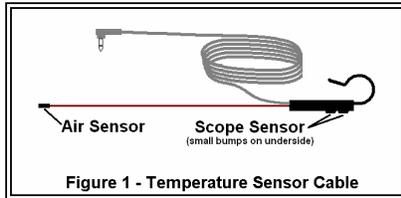
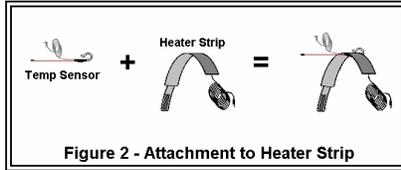
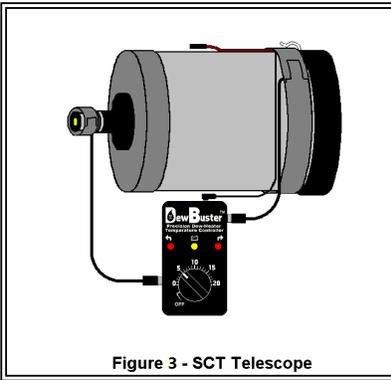
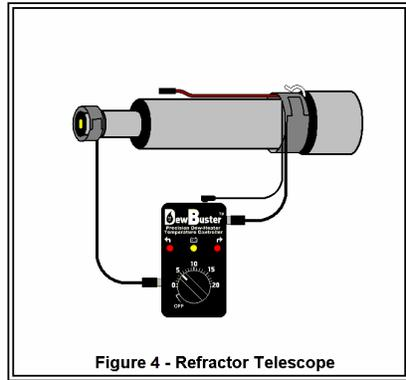

Figure 1 - Temperature Sensor Cable
Figure 2 - Attachment to Heater Strip
Figure 3 - SCT Telescope
Figure 4 - Refractor Telescope
- Attach Sensor Cable (Fig.1) to heater strip as shown in Fig.2.
- Attach heater strip to telescope (Fig. 3 or 4) making sure Scope Sensor (Fig.1) is against telescope tube and Air Sensor does not touch telescope. **NOTE: The best location for the heater strip is just behind the corrector plate casting (Fig.3) or refractor dew shield (Fig.4) so that it warms the air inside the telescope as close to the lens as possible. Do not place heater around dew shield because the heat will just escape into the atmosphere.**
- Plug Temperature Sensor Cable into Left or Right Sensor input (Fig. 4 or 5) and plug heater strip into the Temperature Controlled Output on that side (color coded yellow, see diagram on page 1).
Temp Controlled LED stays on constantly.	<ul style="list-style-type: none"> <li>• Normal when first turned on, but LED should start blinking after scope warms up.</li> <li>• Temperature Sensor not making contact with telescope (page 2 Fig.1) or unplugged.</li> <li>• Air Sensor (page 2 Fig.1) too close to warm object like a heater strip or your body.</li> <li>• Check that proper side of heater is against metal part of telescope and getting warm.</li> </ul>